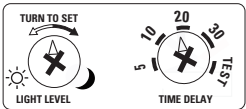

FIGURE 4
- a. Remove the button from the sensor by pressing in the hooks on the button, and then lift up on the button as shown in Fig. 4.
1. Remove the ON/OFF pushbutton to access the light level adjustment (See Figure 4)